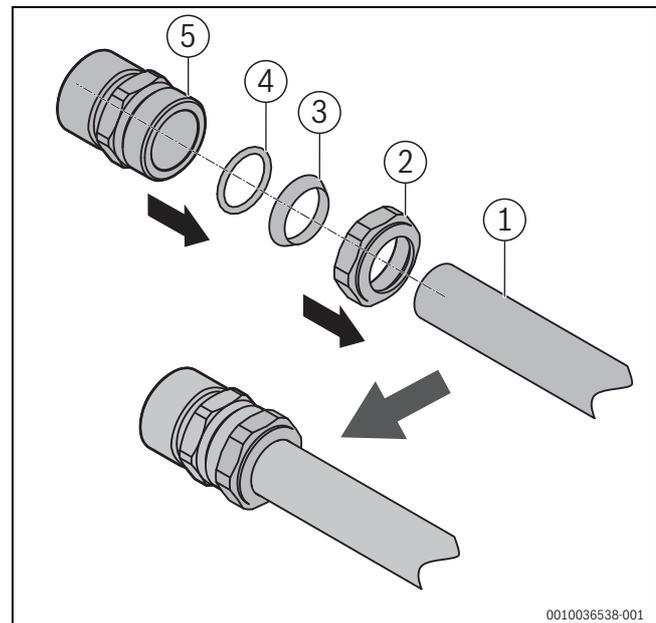

Fig. 7 Assembly of the clamping ring screw fitting
- ▶ **Mount connection sets** (accessories) on the pipe as shown in figure 7.